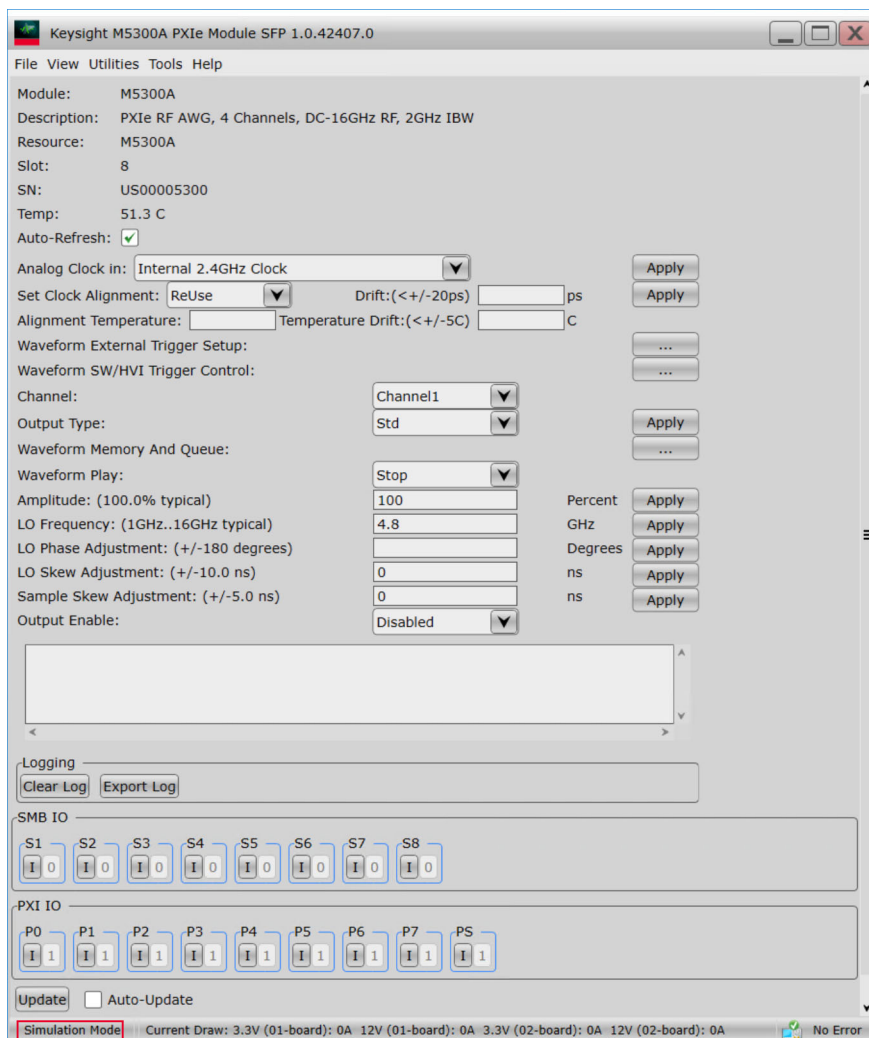

Figure 33 “Simulation Mode” in the status bar on the main window
- ‘Simulation mode’ enabled—This is the default mode of SFP operation. The **Simulation Mode** check box is selected by default and the **Simulate** button is displayed on the window. This mode is used for offline SFP operations. In this mode, even if you select an active module (which is connected to a chassis in powered on state), toggling the SFP controls does not affect the signal state on the module. The status bar on the main window shows ‘Simulation Mode’, as shown in Figure 33.